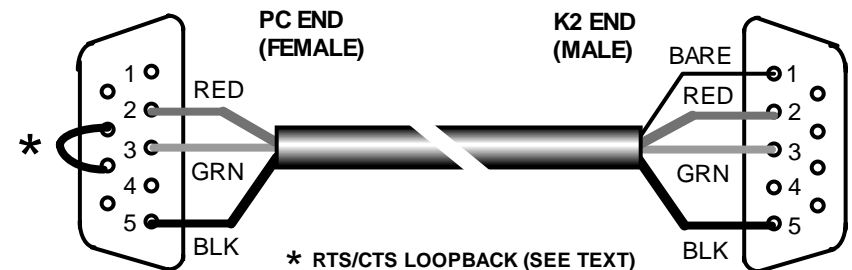

Figure 42
- Locate the DB9F (female) and DB9M (male) connectors. Arrange them as shown in Figure 42 (male connector on the right, solder cups facing up). Make sure the 5-pin rows are facing each other.
- As shown in Figure 42, pins 7 and 8 of the female connector can be wired together (using a discarded component lead) to provide RTS/CTS loop-back2. Some software requires this *hardware handshaking*. We recommend that you make this connection, unless you're sure that your application software does not need it. Some programs use these lines for CW keying, etc.
- Solder the RED, GREEN, and BLACK wires of the PC end of the cable (the end with no shield wire) to the female connector. Refer to Figure 42.